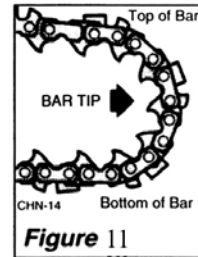

Figure 11
3. Install the chain loop over the drive links within the guide bar groove, and then align the chain over the drive sprocket. Make sure the cutter are properly oriented as shown in Figure 11. If chain installation is difficult or if the chain appears too tight, refer to the section "Adjusting the Chain" on the next page.